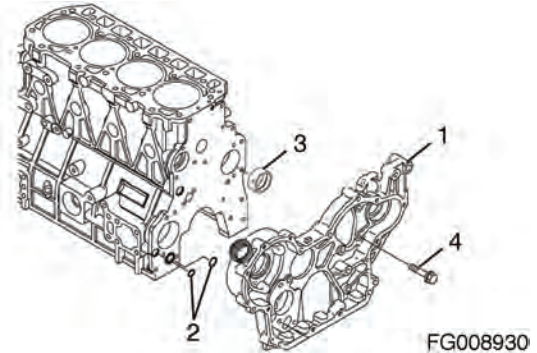

Figure 176
2. Remove the bolts (4, Figure 176).
3. Remove the gear case (1, Figure 176) or front plate from the cylinder block. Thoroughly clean all old sealant from the mating surfaces.
4. Inspect and measure the camshaft bushing. See "Camshaft" on page -97. for the service limit. If damaged or worn beyond service limits, remove the camshaft bushing (3, Figure 176).
5. Remove two O-rings (2, Figure 176).